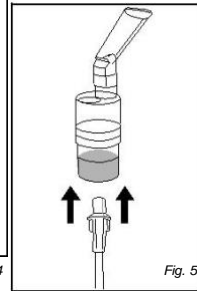

Fig. 5
8. Attach the nebulizer to the air tubing, Fig 5.